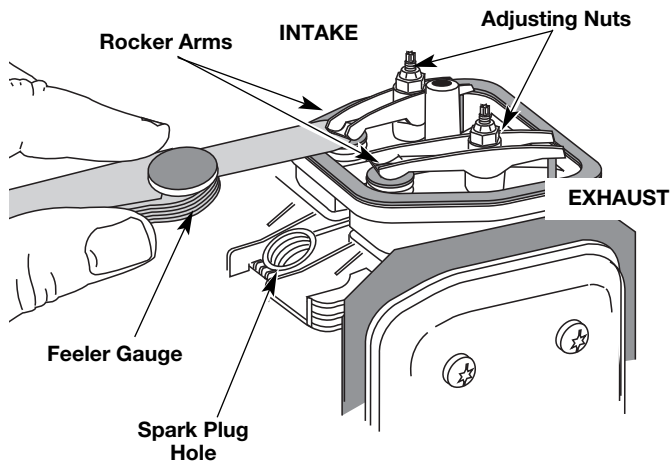

Fig. 40
- The piston is at the top of its travel while looking in the spark plug hole (Fig. 40)
valve stem and rocker arm (Fig. 40). Measure both the intake and exhaust valves.
The recommended clearance for both intake and exhaust is .003 – .006 in. (.076 – 0.152 mm). Use a standard automotive .005 in. (0.127 mm) feeler gauge. The feeler gauge should slide between the rocker arm and valve stem with a slight amount of resistance, without binding. See Figures 40 and 41.
- a. Turn the adjusting nut using a 5/16 inch (8 mm) wrench or nut driver (Fig. 40).